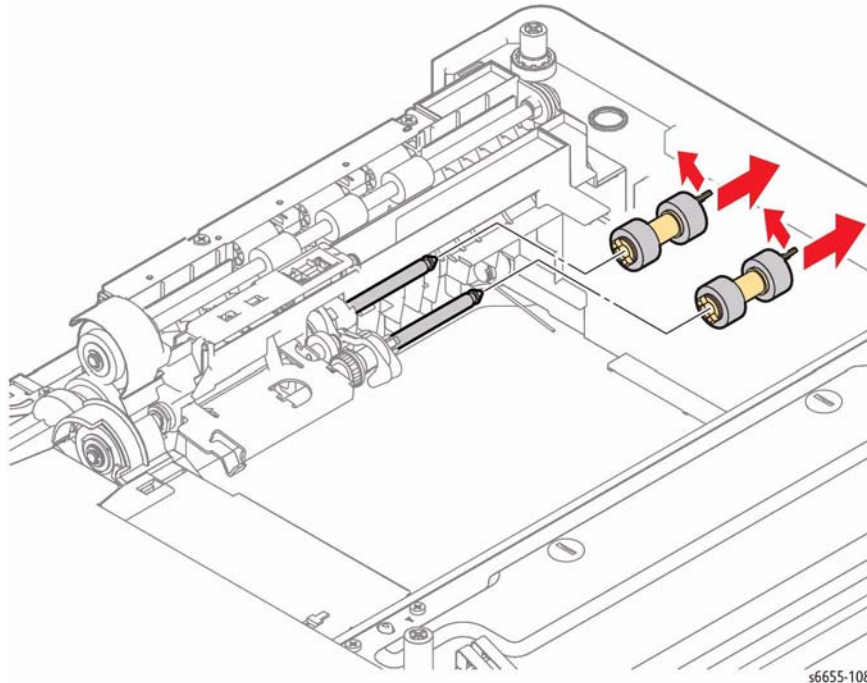

Figure 1 Remove the 550 Option Feed Roller Assembly
3. Refer to Figure 1 to locate and release the hook holding the Feed Roller Assembly, and slide the assembly off the shaft.